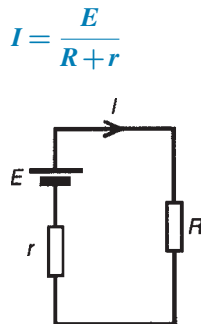

Figure 15.36
- (iv) determine the value of the current from the equivalent circuit shown in Fig. 15.36, i.e.